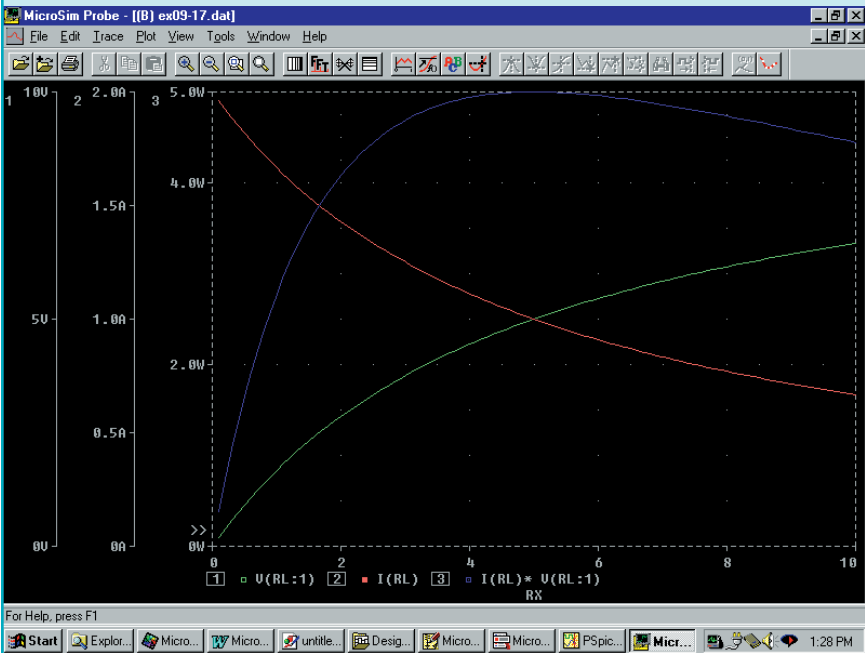

FIGURE 9–74
The display will appear as shown in Figure 9–74.
Use OrCAD PSpice to input the circuit of Figure 9–66. Use the Probe post-processor to obtain voltage, current, and power for the load resistor as it is varied from 0 to 5 k Ω .
1. Given the circuit of Figure 9–75, use superposition to calculate the current through each of the resistors.